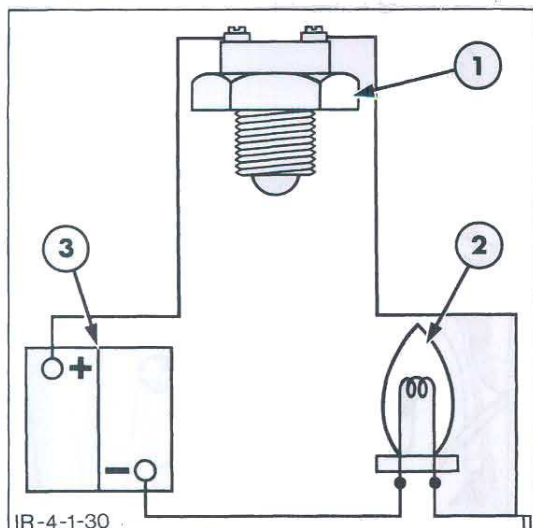

Figure 30
2. Check the safety start switches for operation by connecting the switch to a suitable bulb and battery as illustrated in Figure 30.